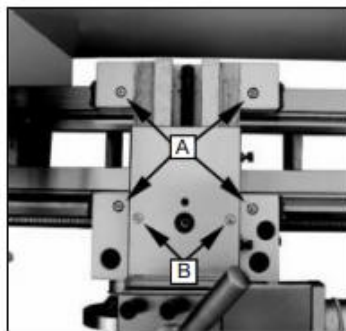

Fig. 36
- 2 . Loosen knurled screw (B, Fig.36) and open the sliding fingers. (C, Fig.31) until the steady rest can be moved with its finger around the workpiece. Secure the steady rest in position.
Lubricate Four oil ports (A, Fig. 36) with 20W machine oil once daily.
Lubricate two oil ports (B, Fig. 36) with 20W machine oil once daily.